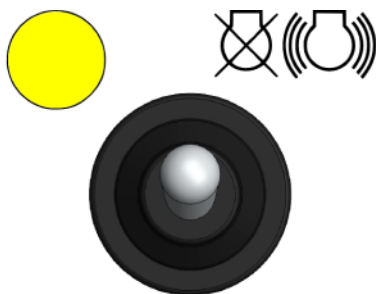

Fig. 50: Toggle switch start/stop
- To switch off the combustion engine (Fig. 50) push the toggle switch up and hold it until the combustion engine stops.